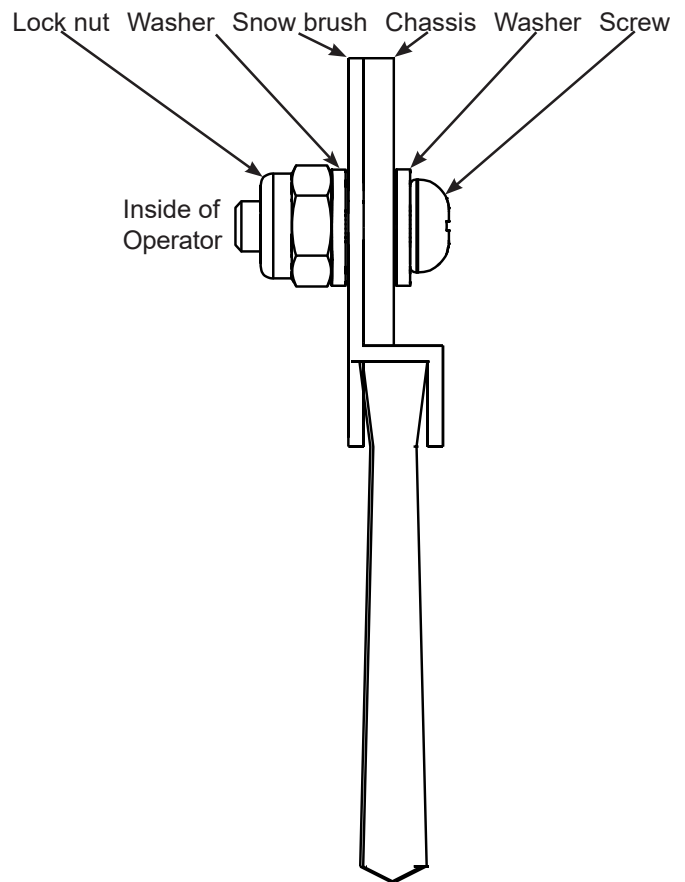
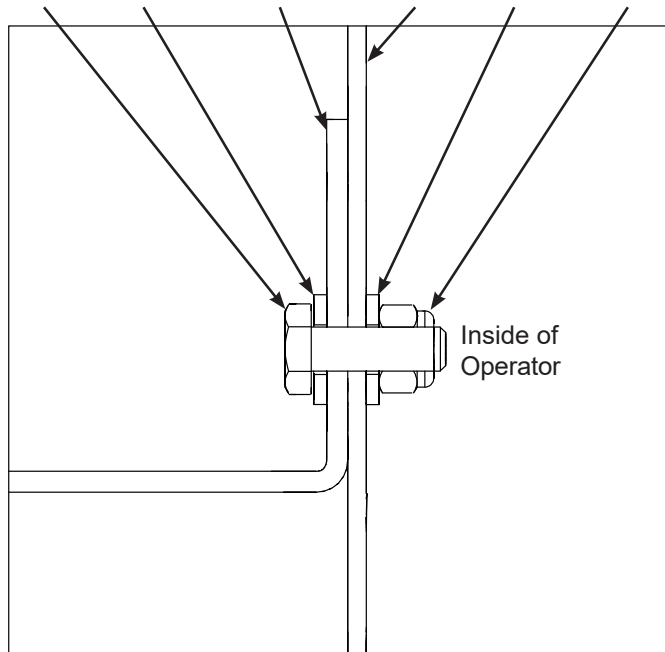
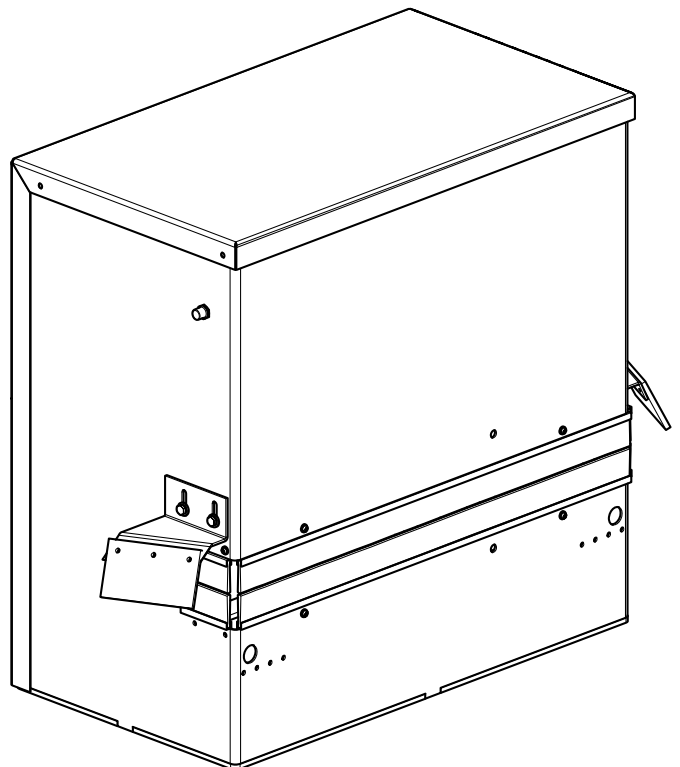

Figure 3. Fasten Snow Brushes
Figure 4. Snow Scraper Bracket Fasteners
Figure 6. Complete Snow Brush and Scraper Installation
3. Slide the snow brushes into place and secure them using the fasteners provided. The aluminum flange should be inside the operator (Figure 3 and Figure 6).
2. Take note of the orientation of the right and left snow scrapers. Slide the brackets into place and adjust them so the scraper rests about $\frac{1}{8}$ in above the drive rail. Secure the bracket using the fasteners provided (Figure 4 and Figure 6).